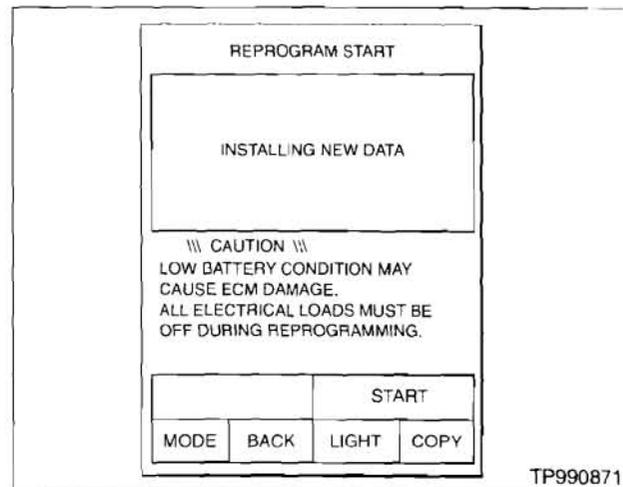

Figure A18
25. The "REPROGRAM START" window should appear (see Figure A18).